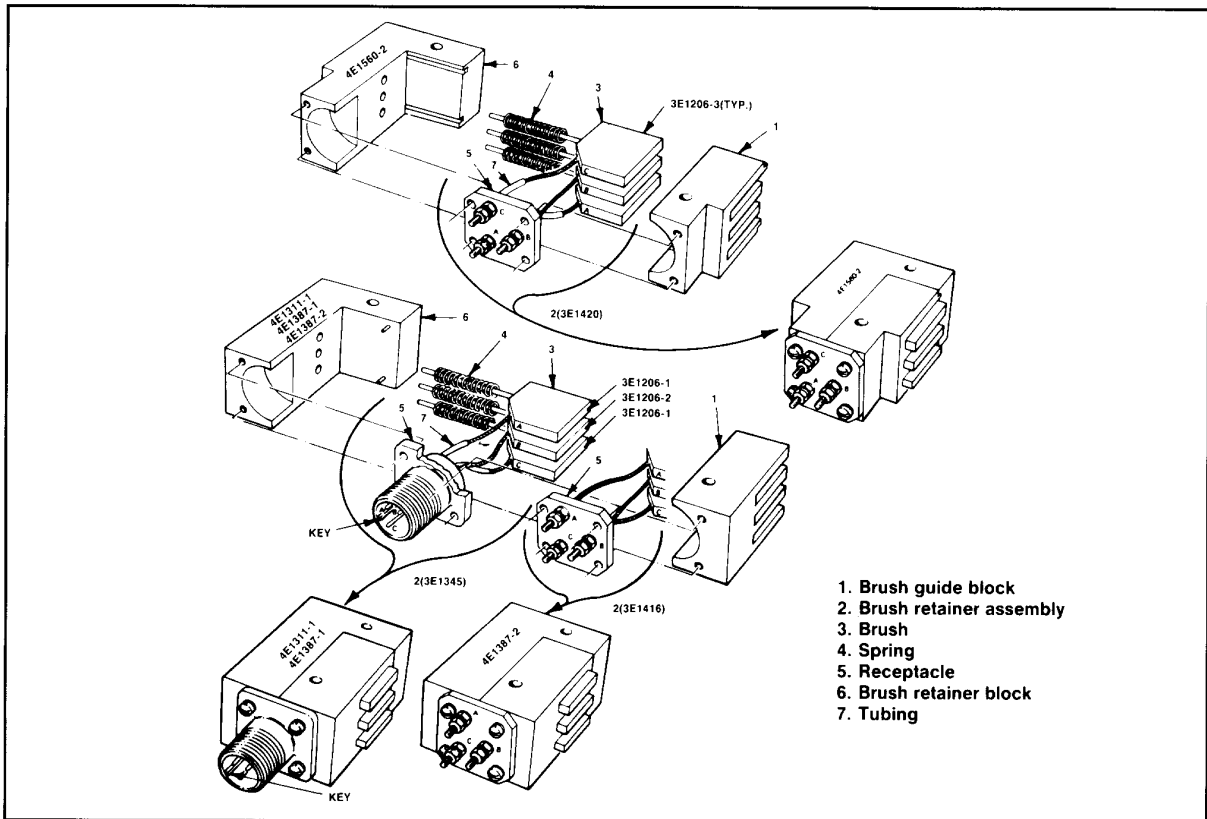

Figure 30 - 4E1311-1, 4E1387-1,-2, 4E1560-2 Brush Block Assemblies
G. Brush Block Assemblies 4E1311-1, 4E1387-1, -2 and 4E1560-2 (Figure 30)